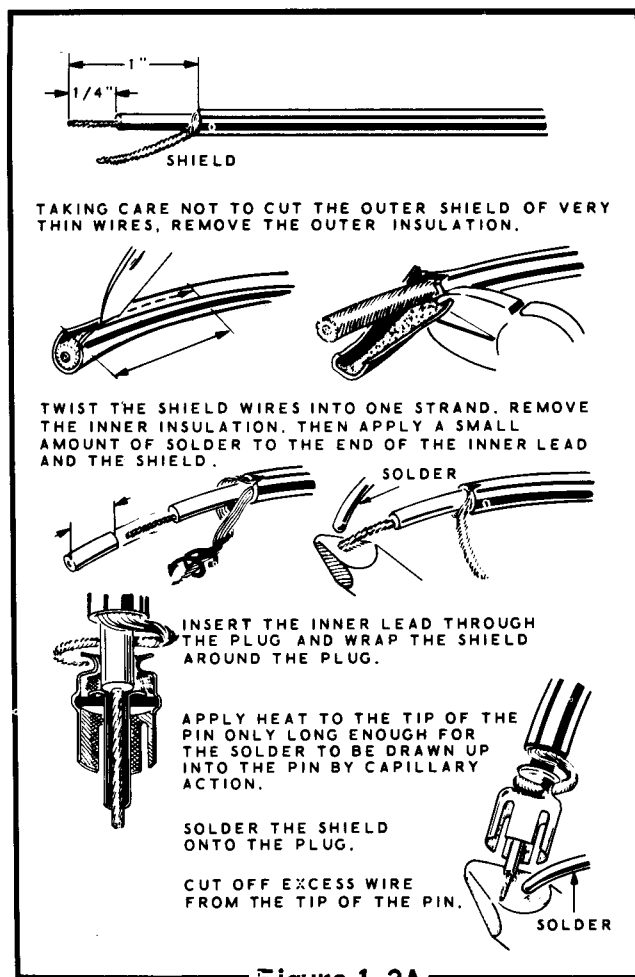

Figure 1-2A
- (-) Cut the speaker wires to the length required for your installation. Refer to Figure 1-2A to attach a phono plug to the speaker wires.
- (-) Connect the 50 Ω dummy load to the ANT phono socket on the rear of the chassis. If necessary, refer to Figure 1-2A and attach a phono plug to the 50 Ω dummy load antenna.